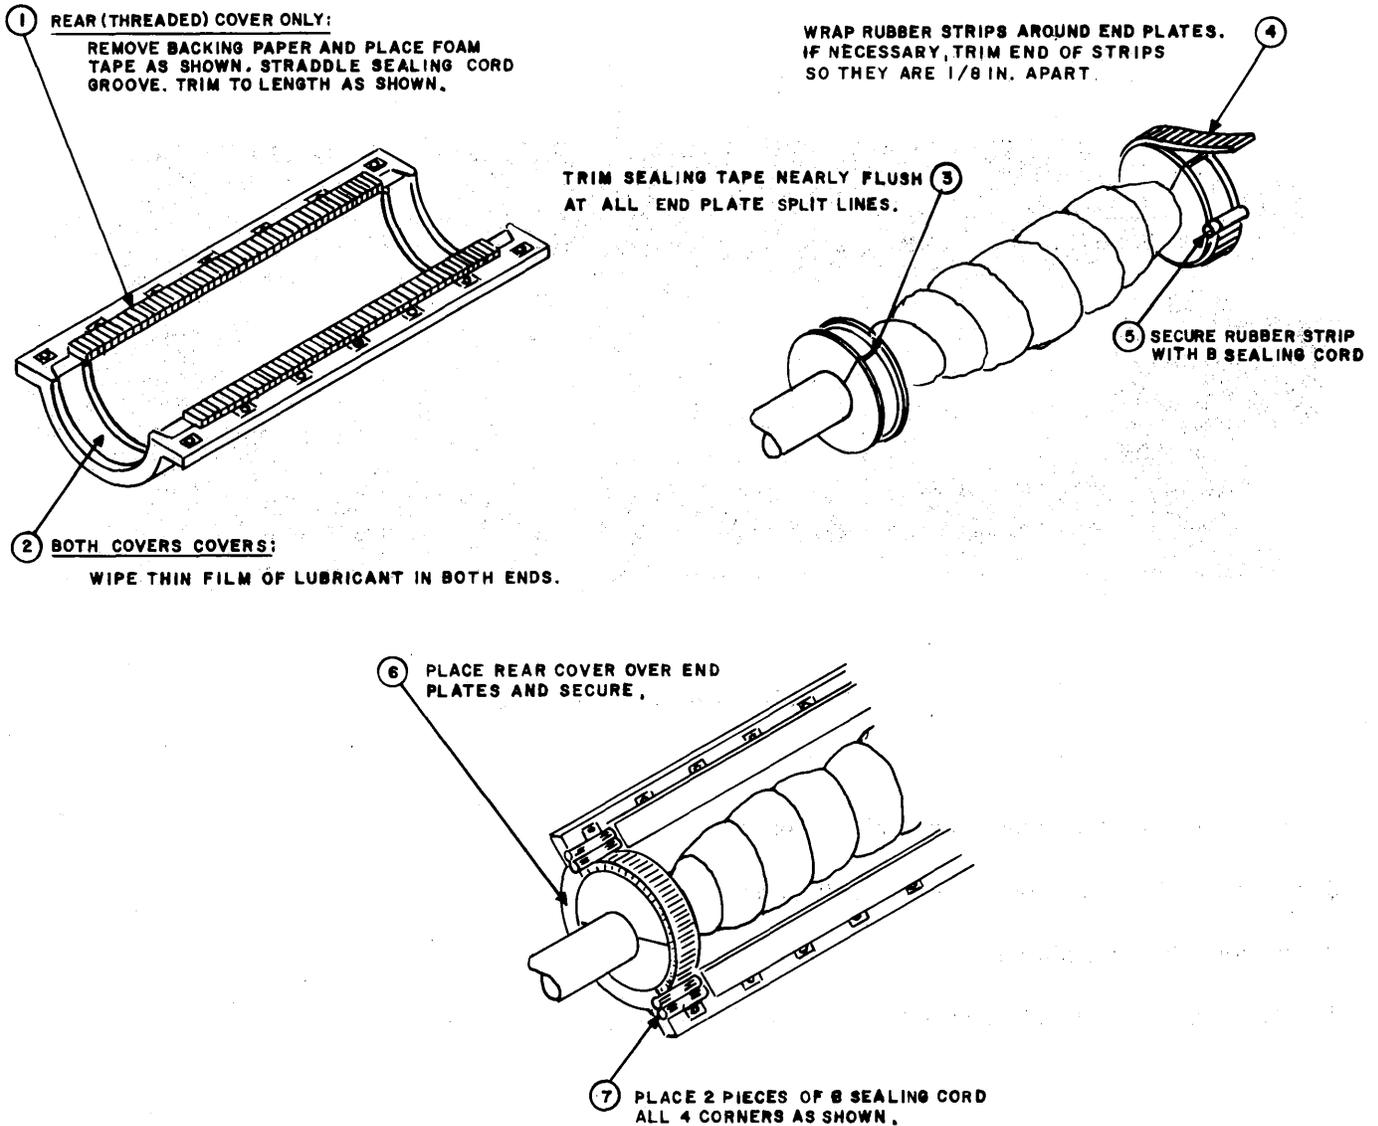

Fig. 43—Installation of Reentry Kit D-180674
6.04 Procedures for using D-180674 reentry seal to install 2-type covers on end plates are packaged with kit and as shown in Fig. 43.